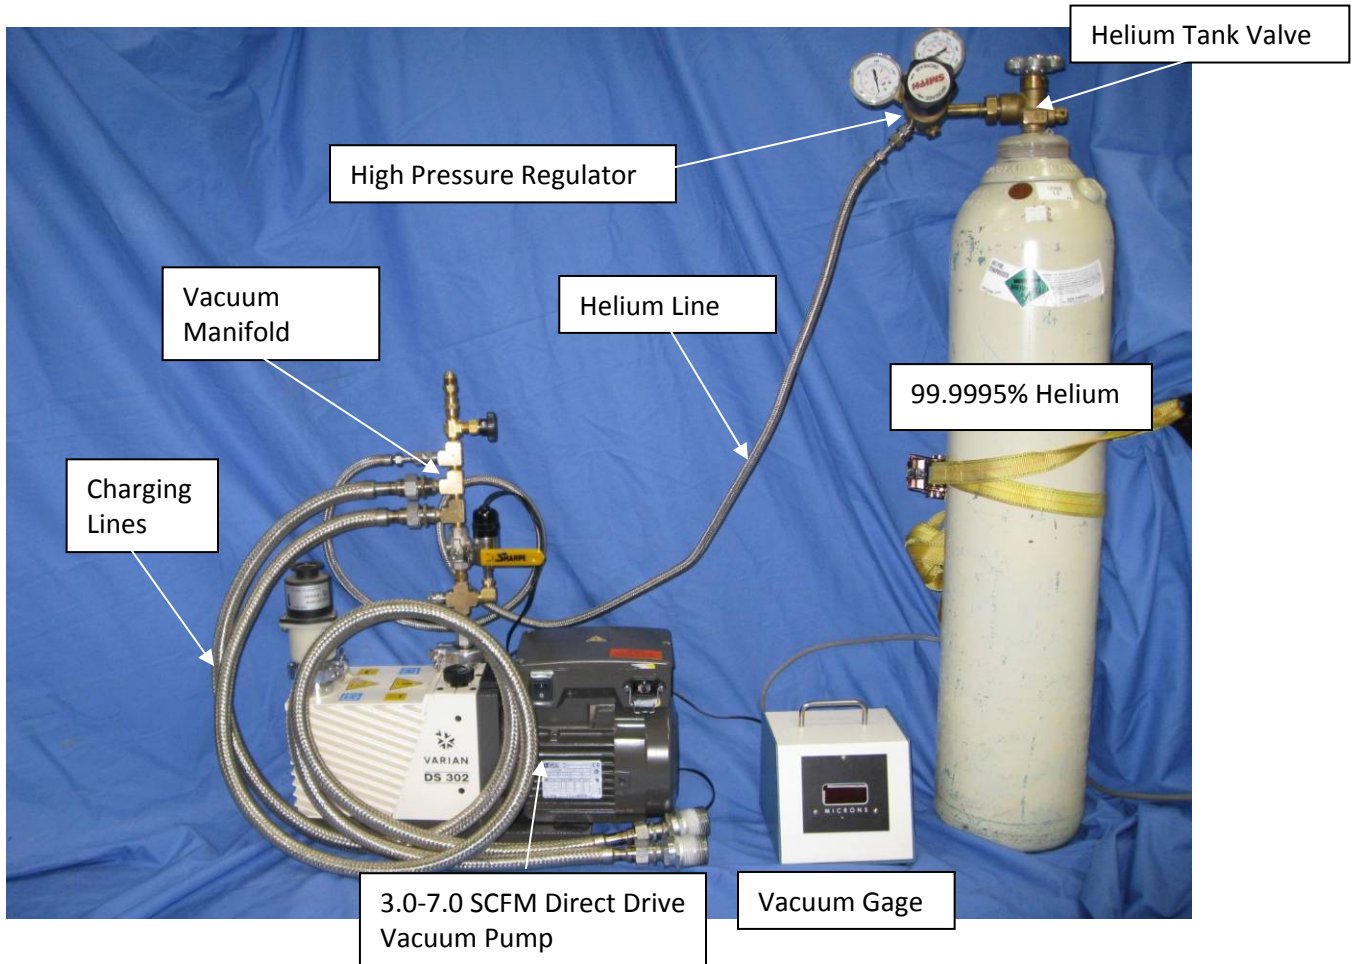
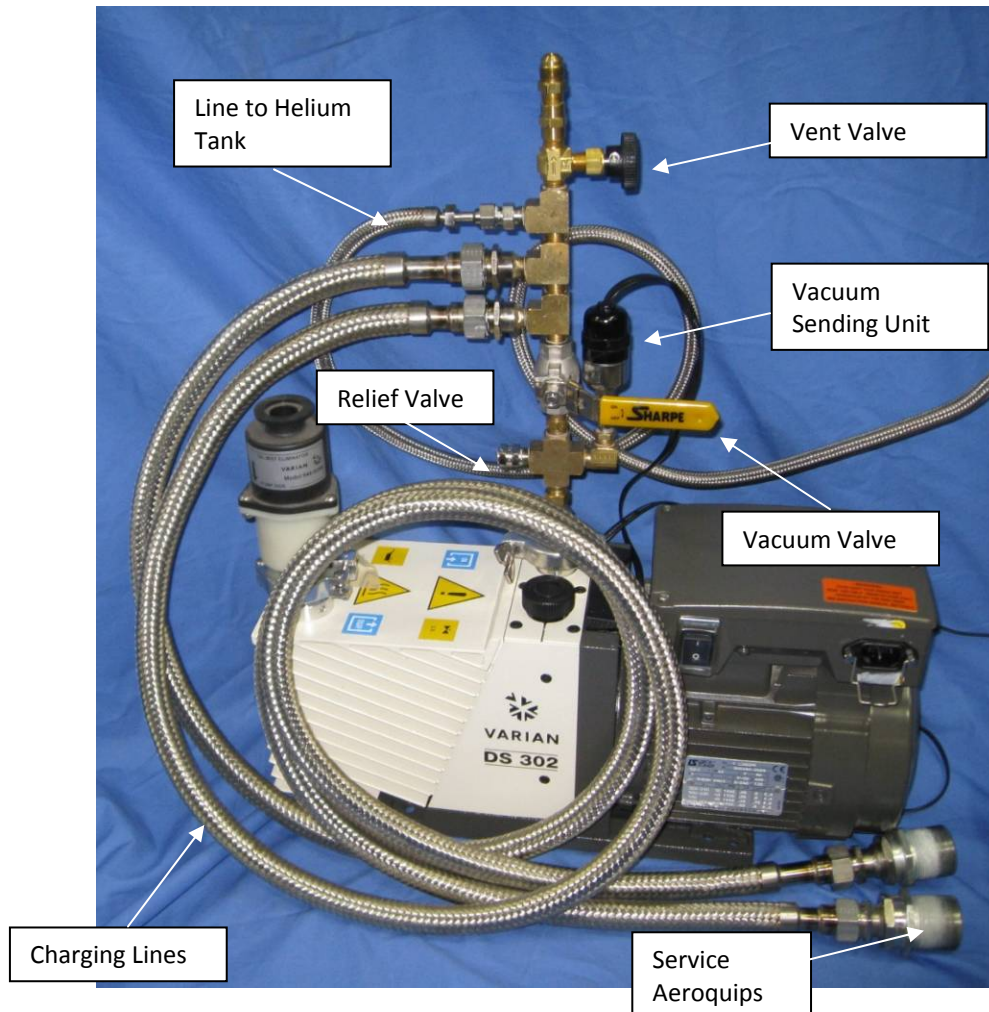

Figure 8-3: Vacuum/charging system
Figure 8-4: Close up of vacuum/charging manifold and pump
- 7) Attach a charging line from the service Aeroquip® to a typical vacuum/charging system as shown in Figure 8-3 and Figure 8-4 below.